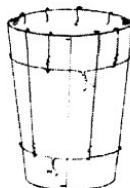

FIG. 5
3. Bend and tie together with iron wire (Fig. 5).
6. Make the spout (Fig. 5). Shape a piece of wood as shown.